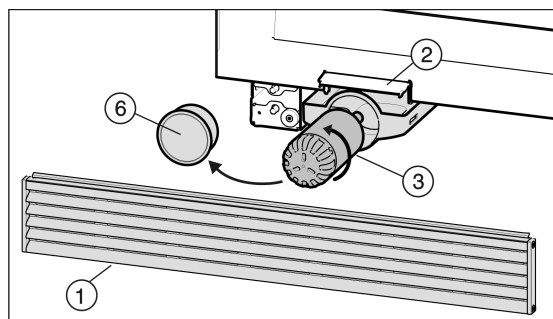

Fig. 8
- ▶ lift the ventilation grid Fig. 8 (1) up and pull out.
- ▶ Open the filter change flap Fig. 8 (2).
- ▶ Pull the water filter carriage Fig. 8 (3) out.
- ▶ Remove the filter cover Fig. 8 (6).
- ▶ Turn the water filter Fig. 8 (3) about 100° anti-clockwise and pull out.